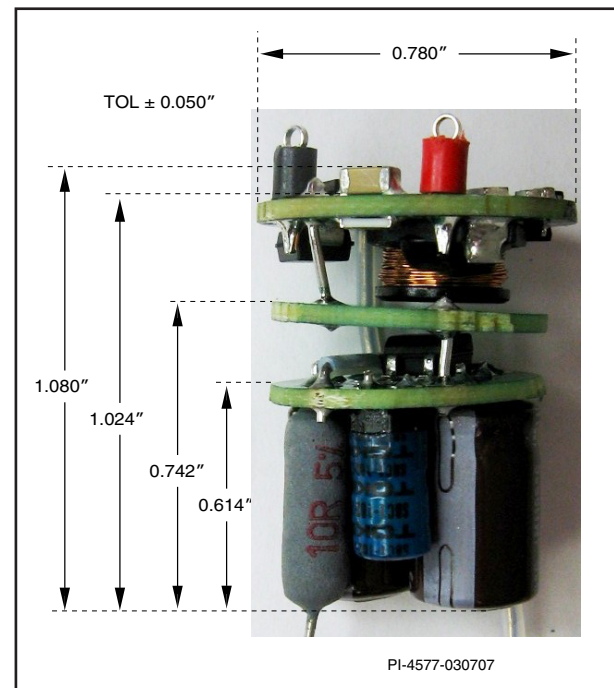

Figure 3. Assembled Unit, Dimensions: 0.78 x 1 inch (19.8 x 25.4 mm).
- To prevent EMI coupling between the switching nodes on the main board and the input filter board, a shield board (connected to C2 negative) was placed between the two PC boards (see Figure 3). This greatly improved the margin to the conducted EMI limits.